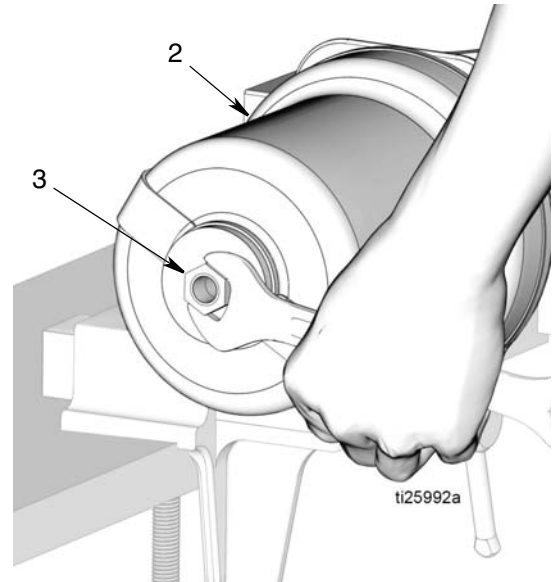

FIG. 57
- e. Thread piston stop nut (3) into top of air cylinder (2) as shown in FIG. 57. Wrench tighten nut. Then torque nut to 15 to 17 ft. lbs (20.3 to 23.1 N•m).